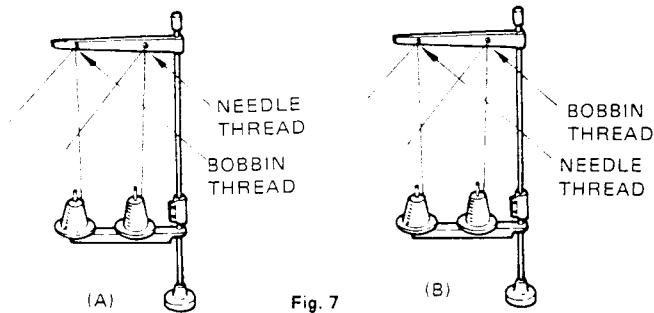

Fig. 7
For machines with bobbin winder on arm top cover, thread as shown in Fig. 7 (A). For machines without bobbin winder, thread as shown in Fig. 7 (B).